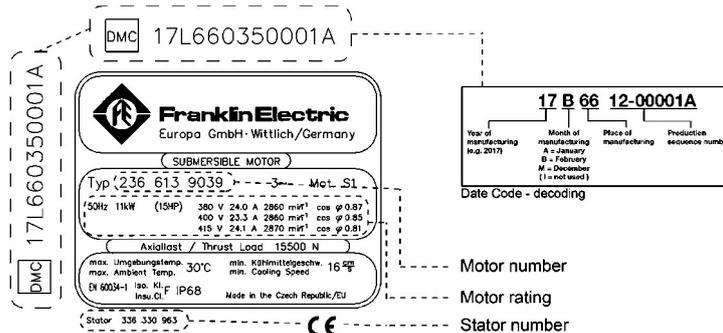

Figure 5-1: Type plate with date of manufacture
- ⇒ Determine the age of the motor by checking the type plate (see Figure 5-1).